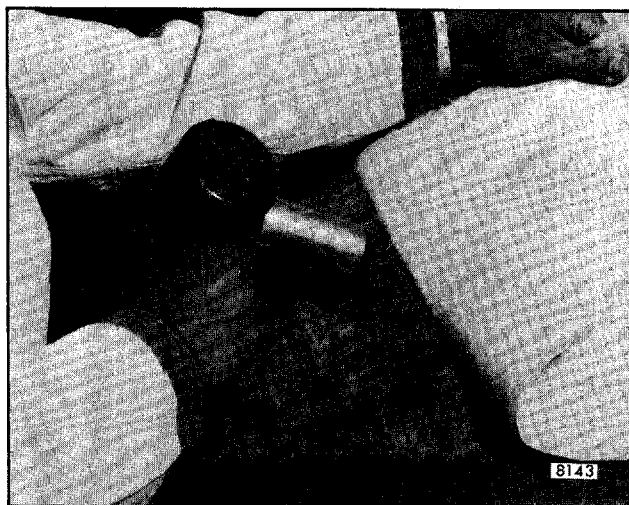

Fig. 8-43-Separating Wrinkled Area from Roof Panel - Heat Application
7. Separate the wrinkled area from the roof panel by either applying heat with a hot air gun while simultaneously pulling on the roof cover (Fig. 8-43), or by carefully separating the cover from the roof panel with a flat-bladed tool such as a putty knife (Fig. 8-44).